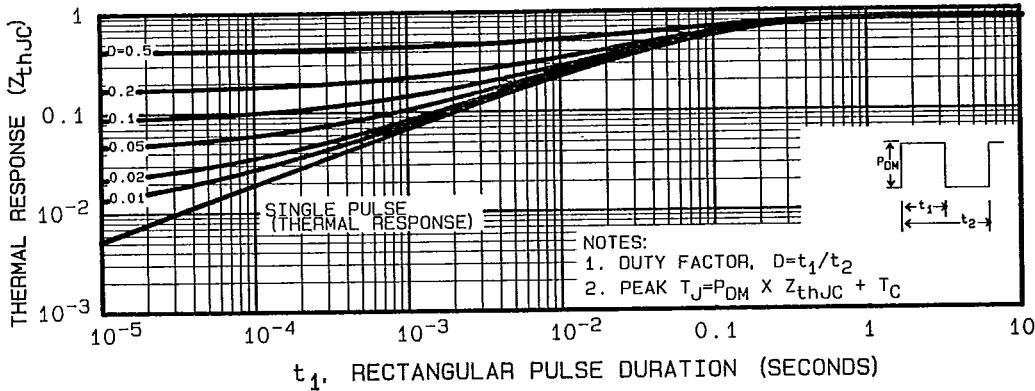

Fig. 5 - Maximum Effective Transient Thermal Impedance, Junction-to-Case Vs. Pulse Duration
① T_J = 25°C to 150°C ② Repetitive Rating: Pulse width limited by max. junction temperature. See Transient Thermal Impedance Curve (Fig. 5).
③ @ V_{DD} = 25V, T_J = 25°C ④ Pulse Test: Pulse width ≤ 300 μs, Duty Cycle ≤ 2%